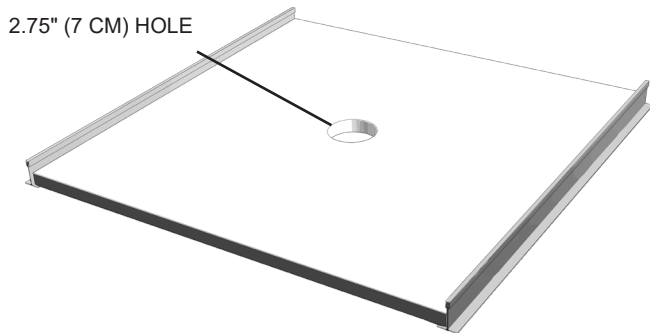

Figure 8.
2. Cut a 2.75 inch (7 cm) diameter hole in the tile where the conduit is to be mounted. See Figure 8.